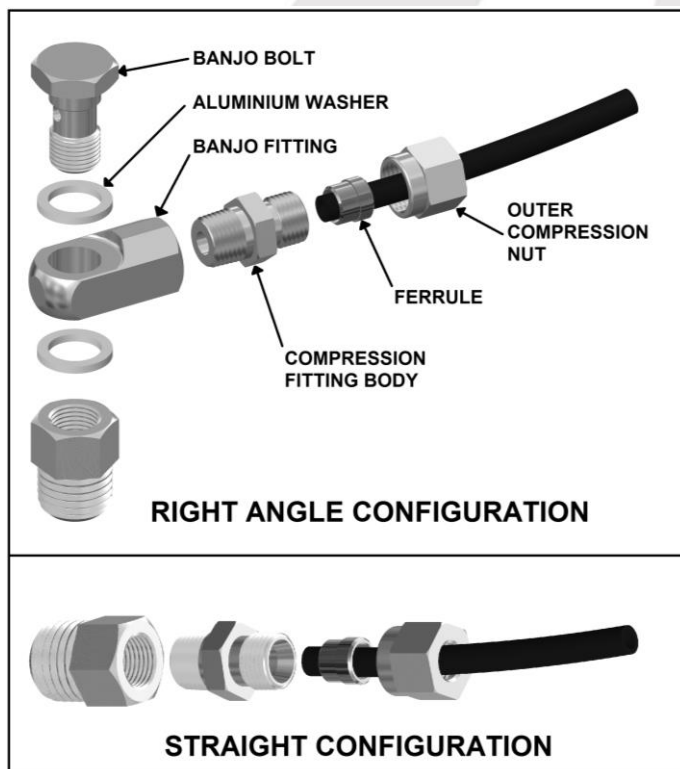

Figure 28.
- Assemble an aluminium washer onto the banjo bolt and insert through the banjo fitting. Assemble second aluminium washer and tighten into bulkhead fitting using a 14mm [9/16"] spanner. (Fig.28.)
**NOTE :** When right angle routing of the tube is not required, screw the compression fitting body straight into the bulkhead fitting body (Fig.28.).